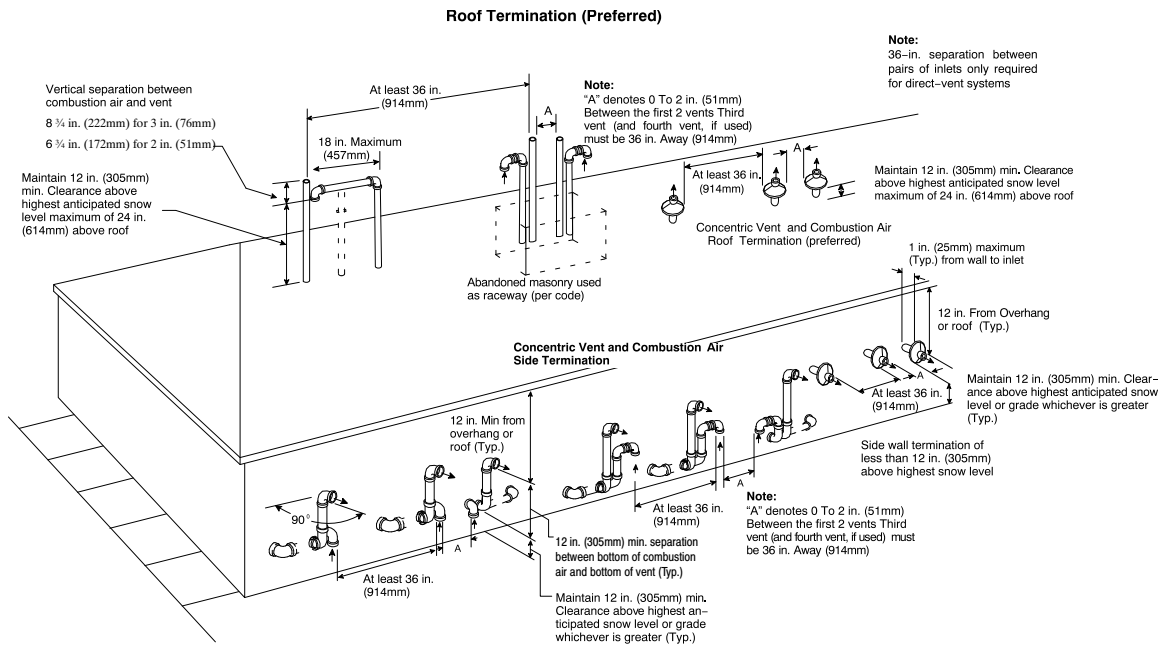
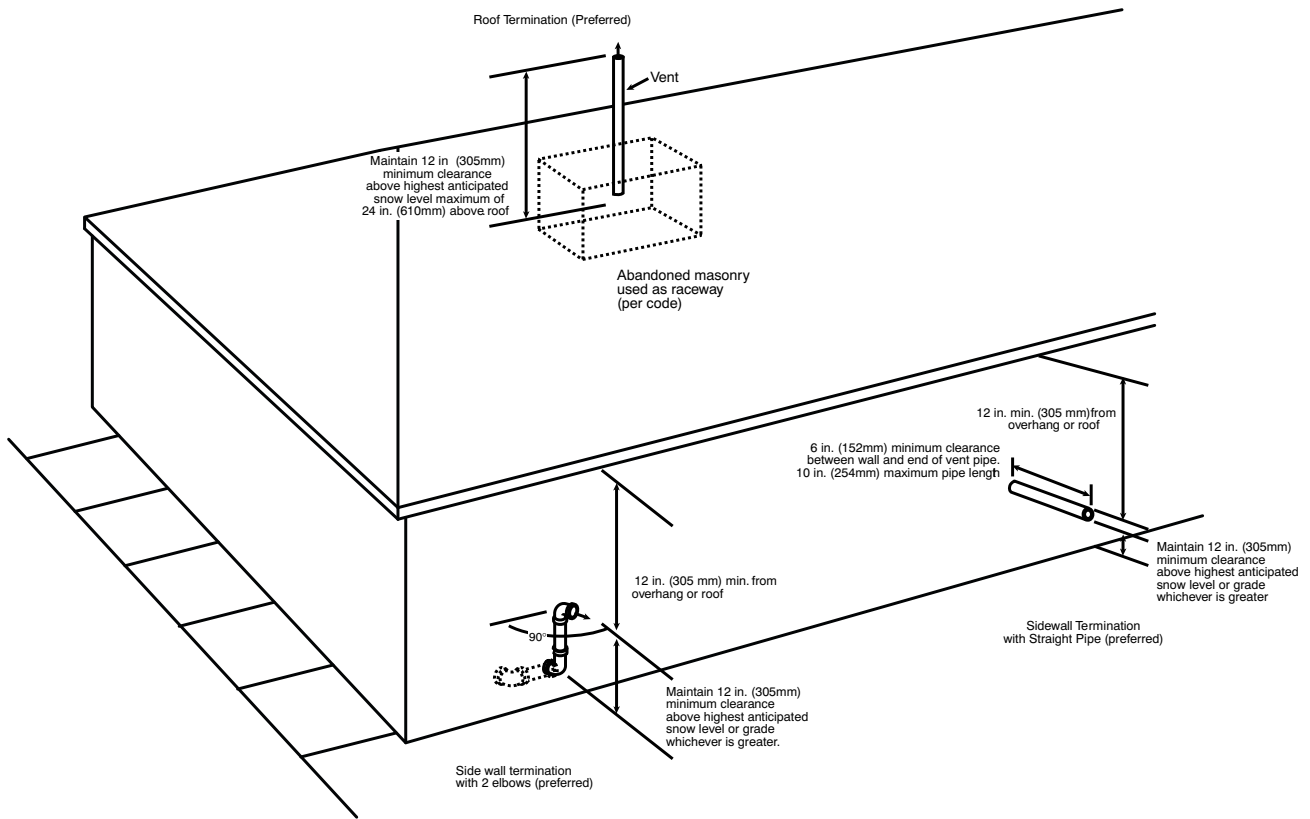
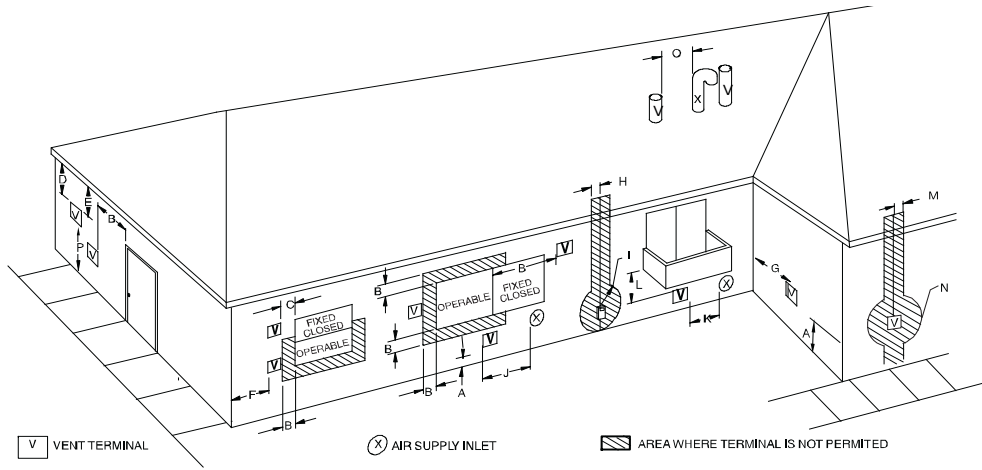
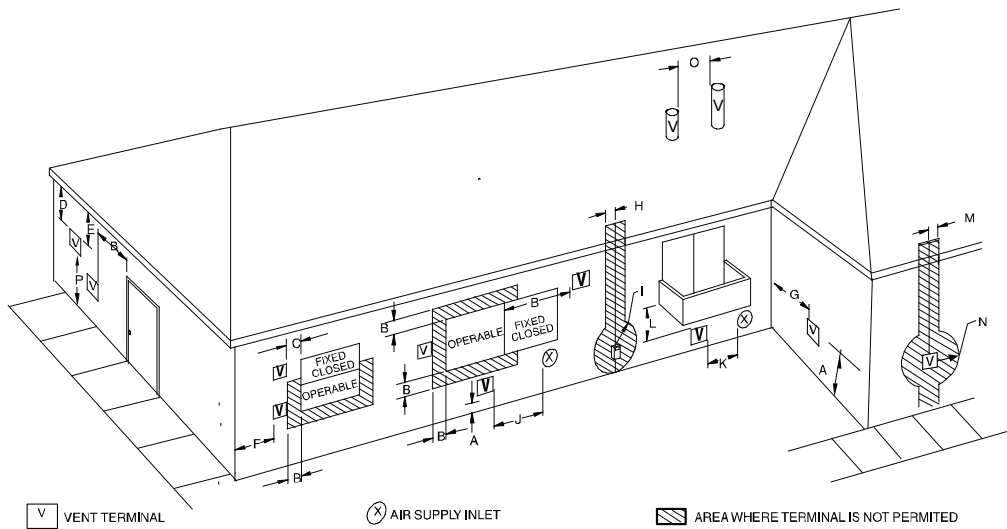

Fig. 41 – Combustion Air and Vent Pipe Termination for Direct Vent (2-Pipe) System
Fig. 42 – Vent Pipe Termination for Non-Direct Vent and Ventilated Combustion Air System
Fig. 43 – Direct Vent Termination Clearance
Fig. 44 – Ventilated Combustion Air and Non-Direct Vent Termination Clearance
In a direct-vent (2-pipe) system, all air for combustion is taken directly from outdoor atmosphere, and all flue products are discharged to outdoor atmosphere. Combustion-air and vent pipes must terminate together in the same atmospheric pressure zone, either through the roof (preferred) or a sidewall. See Fig. 43 for references to clearances required by National code authorities.
In a non direct-vent (1-pipe) system, all air for combustion is taken from the area adjacent to furnace, and all flue products are discharged to outdoor atmosphere. Air for combustion must be supplied as described in the Air For Combustion and Ventilation Section. Do not use an abandoned chimney to supply outside air to the furnace. See Fig. 44 for references to vent clearances required by National code authorities.
For vent termination clearance, references to National codes are shown in Fig. 43 for Direct Vent/2-Pipe system and Fig. 44 for Ventilated Combustion Air/Non-direct Vent/1-Pipe system. For exterior termination arrangements, refer to Fig. 41 for Direct Vent/2-Pipe system and Fig. 42 for Ventilated Combustion Air/Non-Direct/1-Pipe system. Contact Local code authorities for other requirements to and/or exemptions from the National codes shown in the figures.
1. Comply with all clearance requirements stated in Fig. 43 or Fig. 44 per application.
Direct vent (2-pipe) vent and combustion air pipes must terminate outside the structure. See Fig. 43 for references to vent clearances required by National code authorities. Allowable vent and combustion air terminations are shown in Fig. 41.
The vent pipe for a Ventilated Combustion Air System must terminate outdoors. See Fig. 44 for references to vent clearances required by National code authorities. Allowable vent terminations are shown in Fig. 42. The combustion air pipe terminates in a well-ventilated attic or crawl space. Follow the clearances as shown in Fig. 50.
The vent pipe for a Non Direct Vent (1-pipe) system must terminate outdoors. See Fig. 44 for references to vent clearances required by National Code authorities. Allowable vent terminations are shown in Fig. 42.